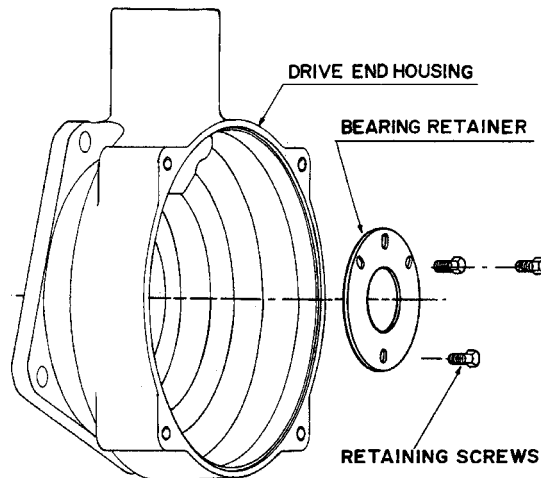

FIGURE 18
1. Remove the three retaining bolts (8) and the retainer plates (7). (See Figure 18.)